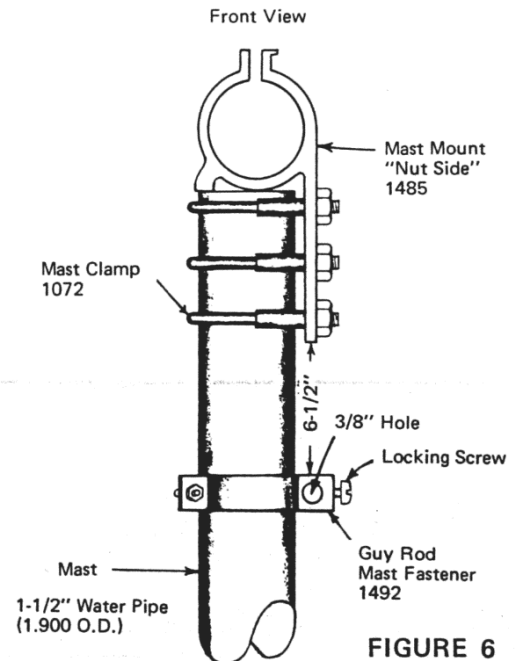

FIGURE 6
WHEN VIEWING THE ANTENNA FROM THE FRONT AS IN FIG. 6:
- b) Secure mast fastener 6 1/2" from the bottom edge of mast mount to the top edge of the mastener, FIG. 6.
Install the bottom guy line as in Step 33. The only difference is that the guy line must pass through the 3/8" hole in the MAST FASTENER also, FIG. 6.
Finally, with everything installed, sight down the boom. Readjust the tension adjusters for boom straightness if necessary. Important Note: a) Don't forget to tighten the mast fastener when remounting the antenna on the permanent mast. b) It is also very important that the locking screw Fig. 6 be tightened after the guy line saddles have been inserted in the 3/8" hole of the mast fastener. Make sure that the boom is parallel with the ground and "square" with the mast before tightening the locking screw of FIG. 6. c) Check the element lengths from tip to tip as given in the chart.